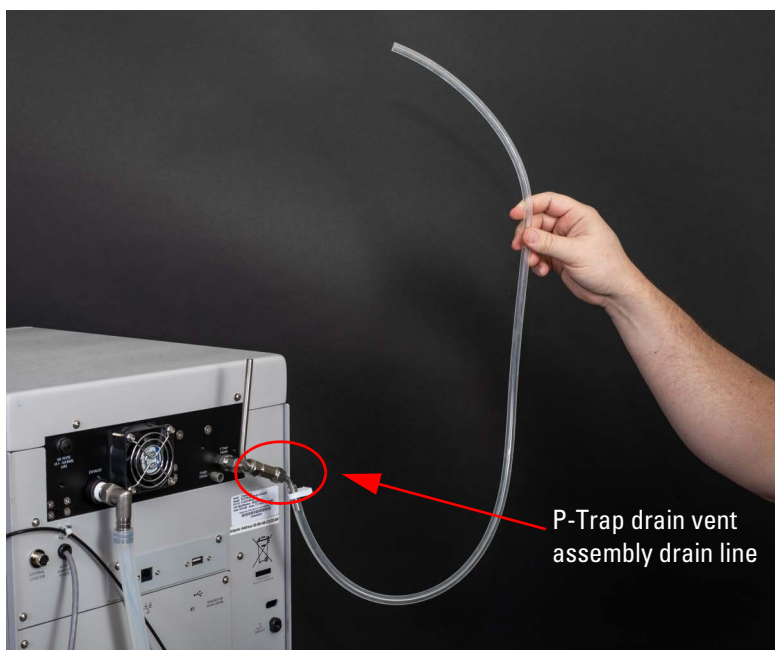

Figure 2-11 Keep liquid level lower than the top of the system
3. The P-trap must be filled with fluid to prevent sample loss. To accomplish this, raise the drain tubing attached to the P-trap drain vent assembly above the instrument, and place 10 mL of liquid, such as isopropyl alcohol, into the tube. Make sure the fluid level in the tubing doesn't exceed the level of the instrument case top. If the tubing is raised too fast, fluid may flow out the top of the vent tube causing a spill. Lift it high enough so the fluid enters the P-trap drain (Figure 2-11).